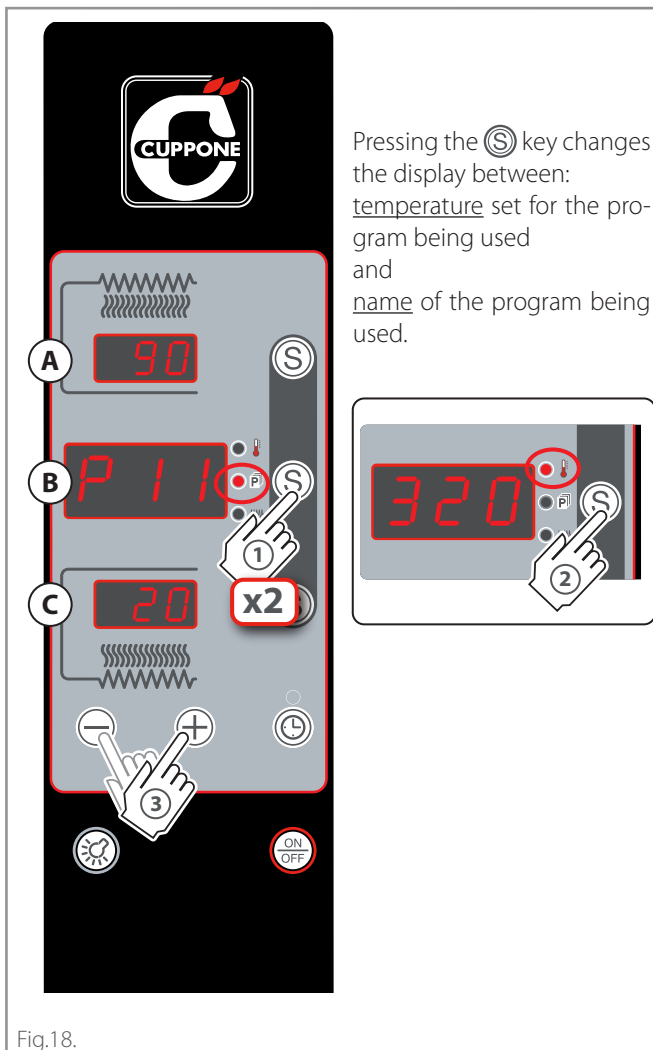

Fig.18.
See ► chap. “**Use of a previously stored programme**” on page 17 and ► Fig.18.
► Fig.18.